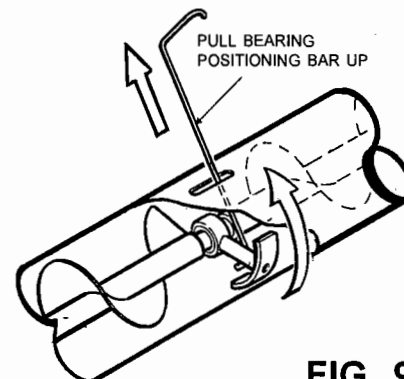

FIG. 9B
- B. Remove the bearing positioning bar and insert the single bent end into slot. Hook the internal bearing hanger stem and by pulling upward, the internal bearing hanger will rotate upward. See Fig. 9B on page 19.